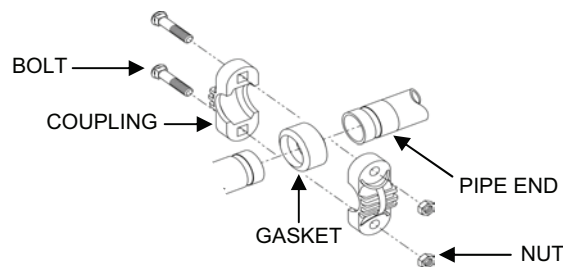

Figure 15. Grooved Coupling and Gasket.
2. Remove the grooved coupling as follows (see Figure 15):